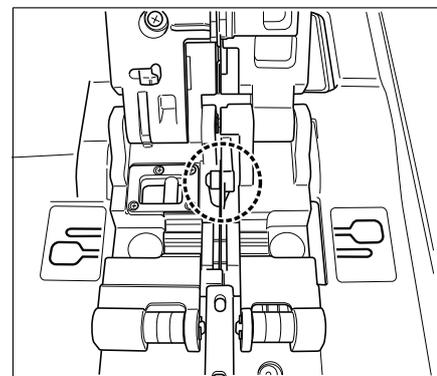

Figure 10
- Do not touch the indicated part with the fingers because it is hot (See Figure 10).